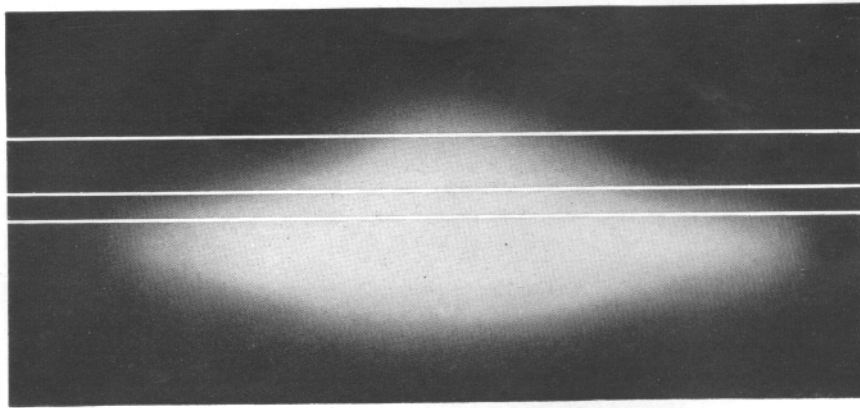
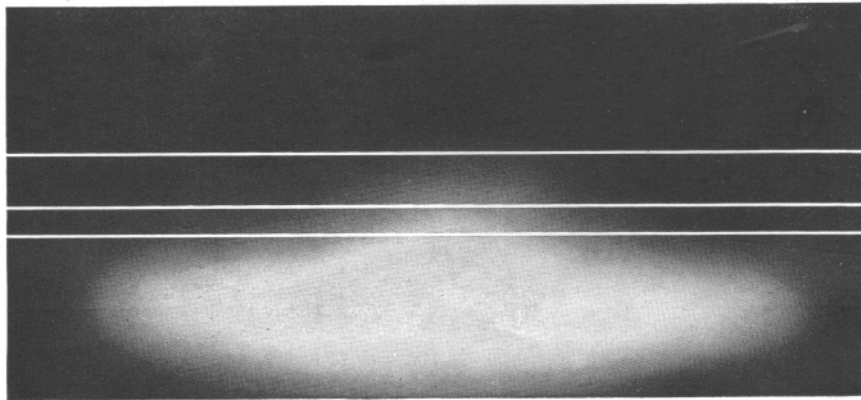

Fig. 2. Single Upper Beam—Lens in Place
Fig. 3. Single Lower Beam—Lens in Place
**DESCRIPTION**—The Parabeam Headlamp is a complete lighting unit of the type which uses a double filament bulb of 21 c. p. for each filament. The two filaments are spaced  $\frac{1}{8}$ -inch apart, above and below the central axis of the bulb. Lighting the lower filament gives the upper or "driving" beam. (Fig. 2.) The upper filament produces the lower or "passing" beam (Fig. 3) for city driving or whenever the upper beam might cause annoyance to others. The lower beam is tilted downward about  $2\frac{1}{2}$  degrees from the upper position, or about 1 foot on a wall 25
feet from the lamp. The two lower white lines in Fig. 3 indicate the maximum and minimum tilt for the top of lower beam.
(vertical adjustment) to left very slightly and try both upper and lower beam on the wall. When the upper beam from one lamp looks like Fig. 2 it is correctly adjusted and the lower beam will have the proper amount of drop or tilt.